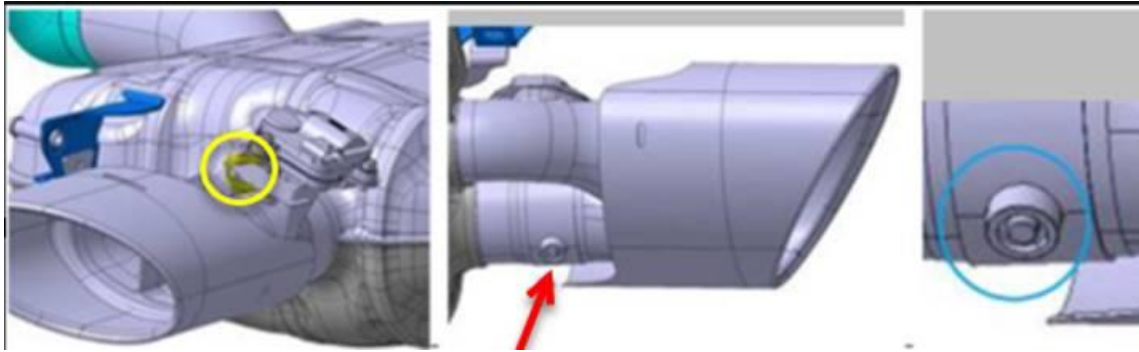

Figure 2. Old rear silencer.
- A. Old version (Figure 2): C-bracket (marked yellow) and moveable bearing (blue). **It is not compatible with an optimized control motor.** The complete rear silencer has to be replaced.